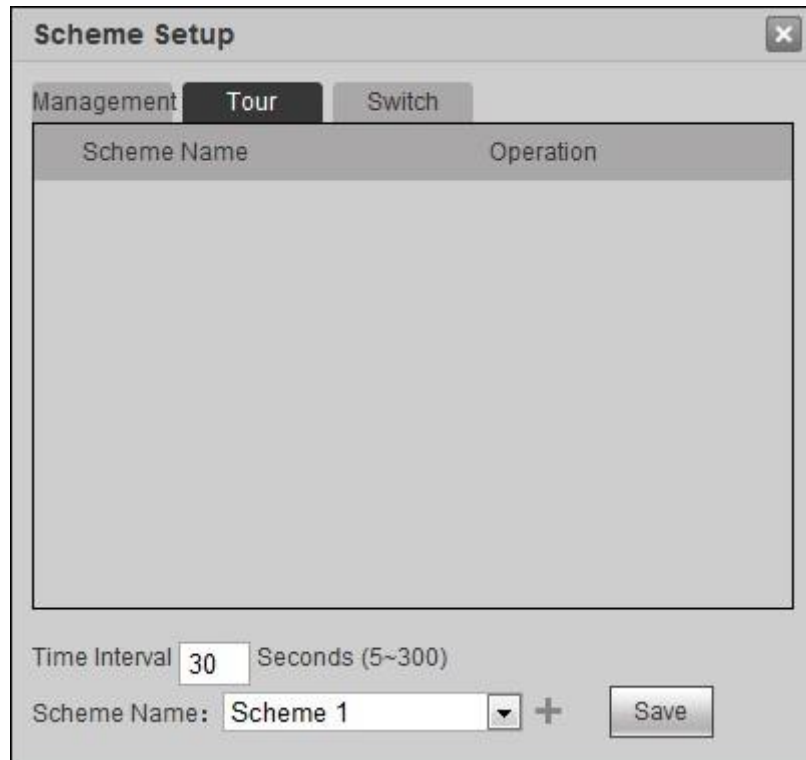

Figure 3-17
Step 1 Click  and select "Tour" tab. The system displays "Tour" interface, as shown in Figure 3-17.